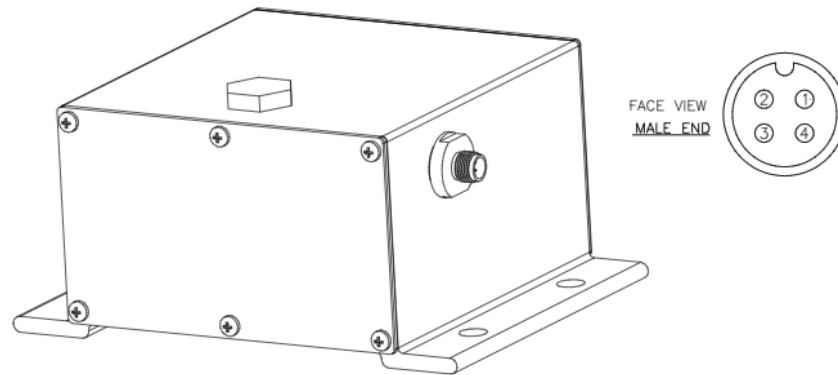

Figure 46: Face View of Power Supply
Wire 120VAC power to the PSP's Alternating Current (AC) input terminals inside the box. Wire should run through the plugged threaded hole in the top of the power supply. See Figures 46 and 47 for details.